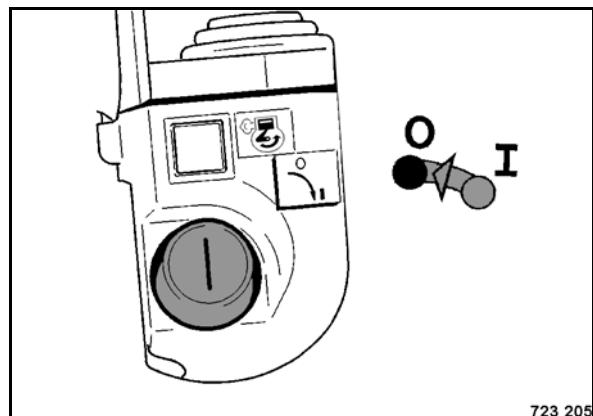

Fig. 69
- Switch off the transmitter (Fig. 69) with the ignition key.